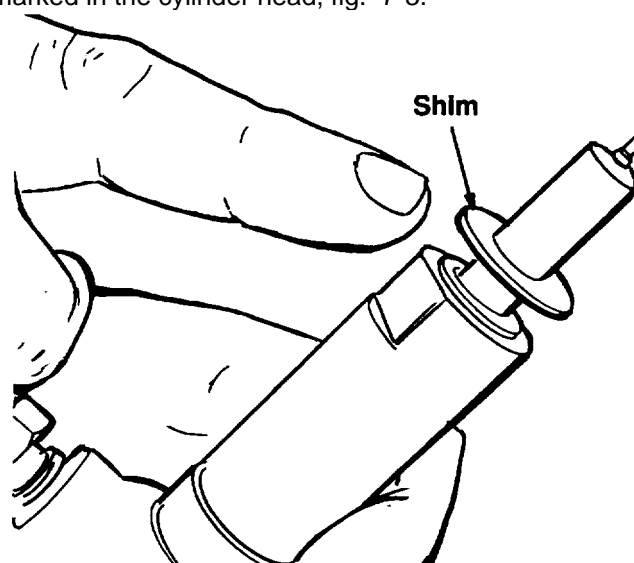
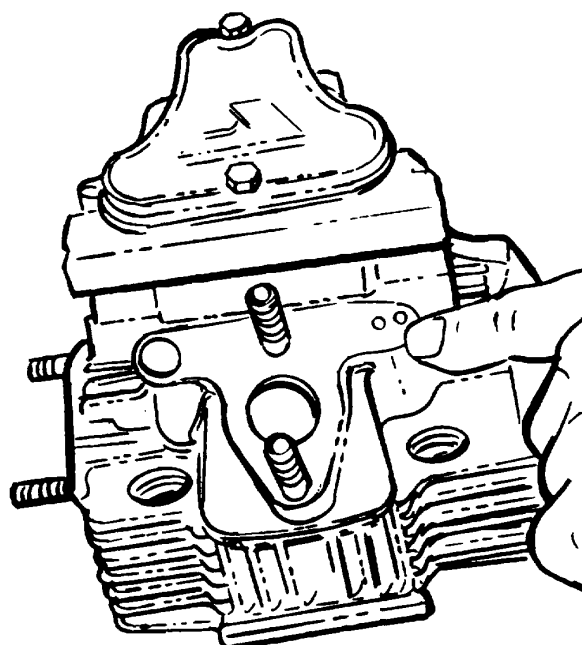

Figure 7-2. Placing Shims on Injector
Figure 7-3. Counting Shims
1. Install injector in cylinder head, make sure the correct number of shims are installed between the injector and cylinder head, fig. 7-2. The number of shims needed are shown by the number of points marked in the cylinder head, fig. 7-3.